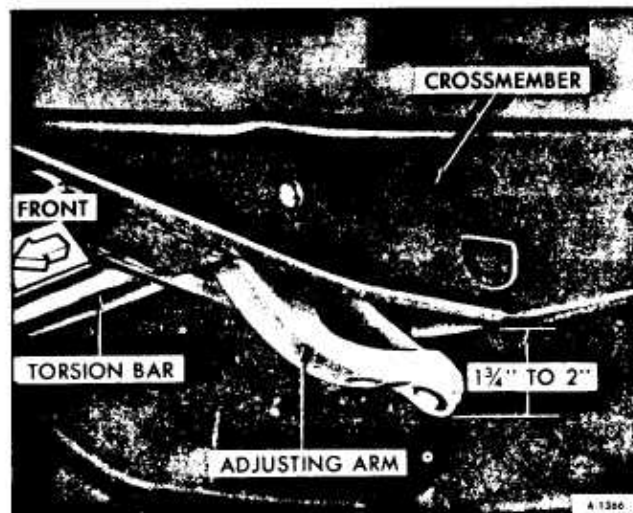

Figure 17-Positioning of Adjusting Arm
6. Insert adjusting arm into the crossmember and position to 1-3/4" - 2" below the centerline of the crossmember (see figure 17). Slide torsion bar rearward until it is flush with the rear face of the adjusting arm.